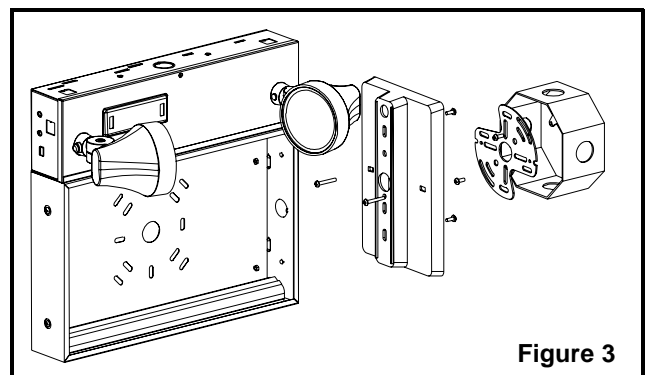

Figure 3
### Canopy - Ceiling or End mount (Figure 3)
- e. Fasten the canopy to the housing (see figure 3). Knock out the two holes near the wire way. Fasten the canopy-housing assembly to the spider plate using the provided 1 1/2" screws.